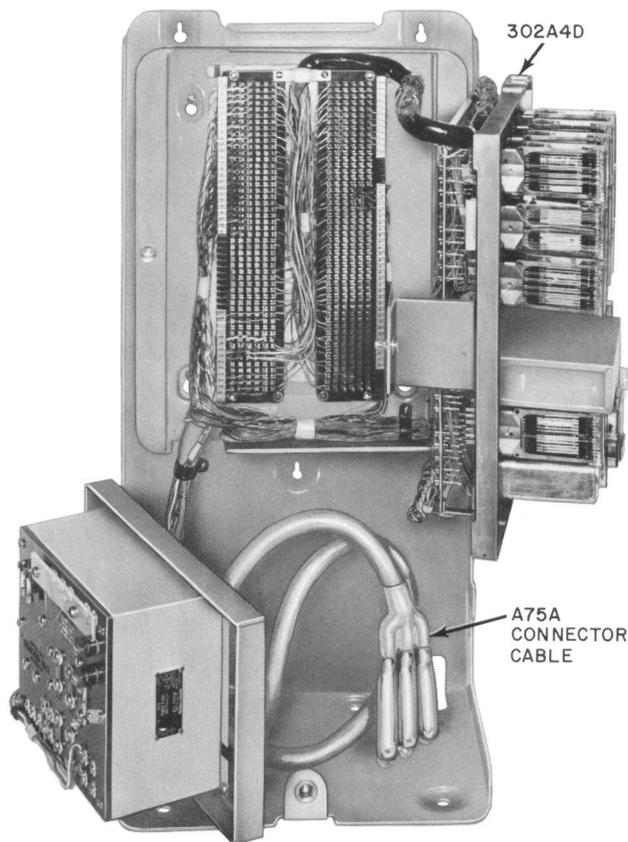

Fig. 4—302A4D KSU, Cover Removed
**2.13** Fig. 4 is a 302A4D KSU in an open position to show the A75A cable.